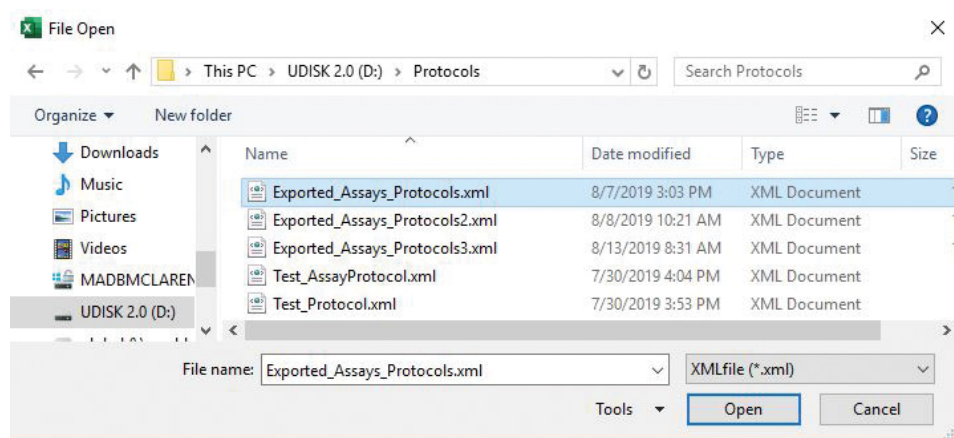

Figure 225. Browsing window.
2. Selecting **Open** brings up a browsing window (Figure 225) to allow you to navigate to the location of a protocols .xml file previously exported from a Spectrum Compact CE System (Section 7.5.1) and transferred via a USB drive to the PC.
3. Select the desired protocols .xml file and select **Open** on the browsing window (Figure 225).